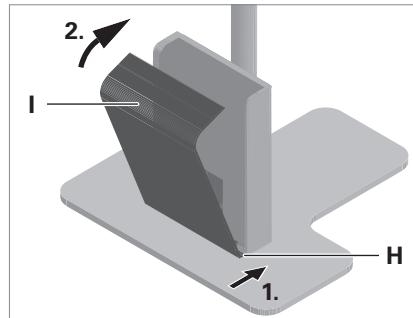

Fig. 5: Mounting the cover.
- Insert the cover **I** into the openings **H**, see Fig. 5.
- Flap the cover onto the supply unit, see Fig. 5.